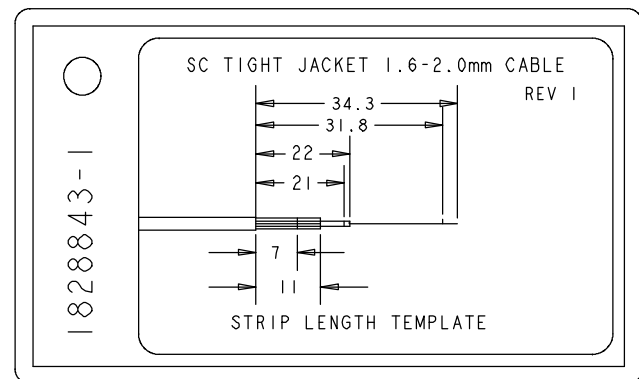

Figure 3
2. Using the strip tool and shears, strip the cable using the cable preparation template (dimensions are to scale), exposing the glass cladding. Refer to Figure 3.